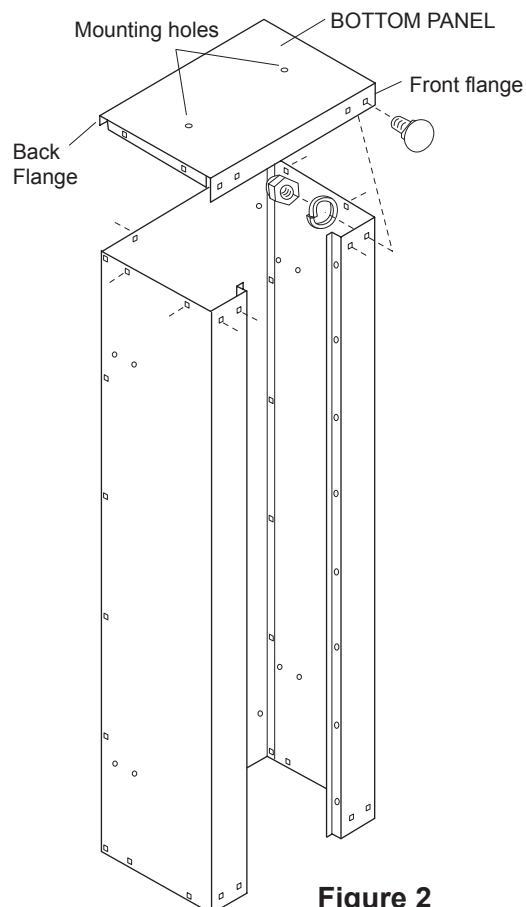

Figure 2
2. Keep the assembly standing up as shown. Locate the Bottom Panel (the one with 2 holes in the center of the panel) and place it on the sides and back assembly. The front and back flanges of this panel must be on the outside of the cabinet. (See Figure 2) The side flanges will be on the inside of the cabinet.